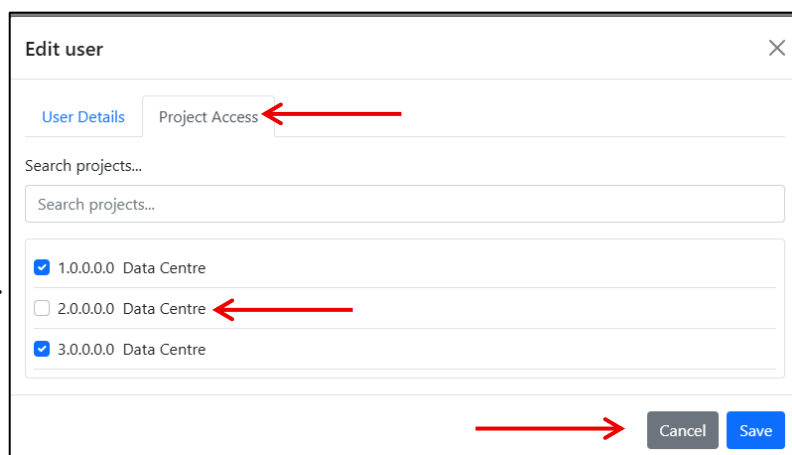

Figure 13: The Edit User window
3. Click the **Project Access** tab (fig. 13).